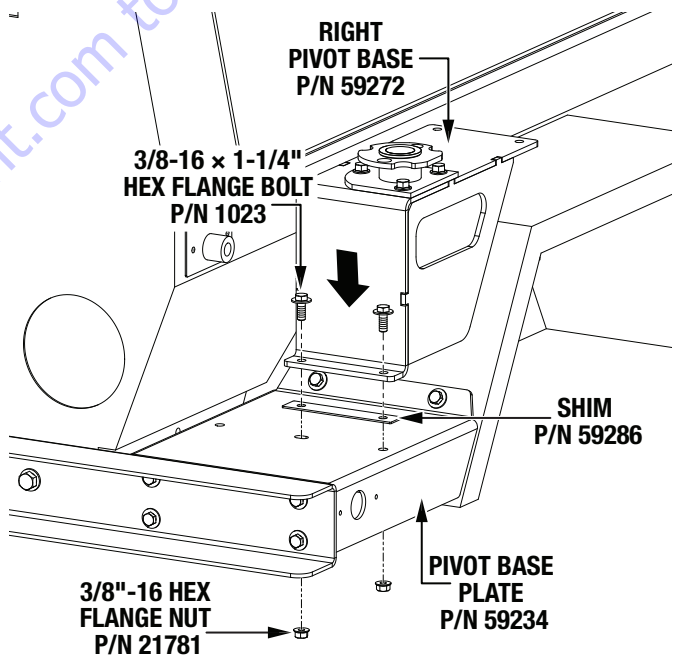

Figure 17. Pivot Base Installation
4. Secure the right pivot base (P/N 59272) to the pivot base plate (P/N 59234) with two 3/8-16 x 1-1/4" hex flange bolts (P/N 1023) and two 3/8"-16 hex flange nuts (P/N 21781). Place pivot plate shims (P/N 59286) between the pivot base plate and pivot base as needed to keep the top of the base level with the top of the fender. See Figure 17.